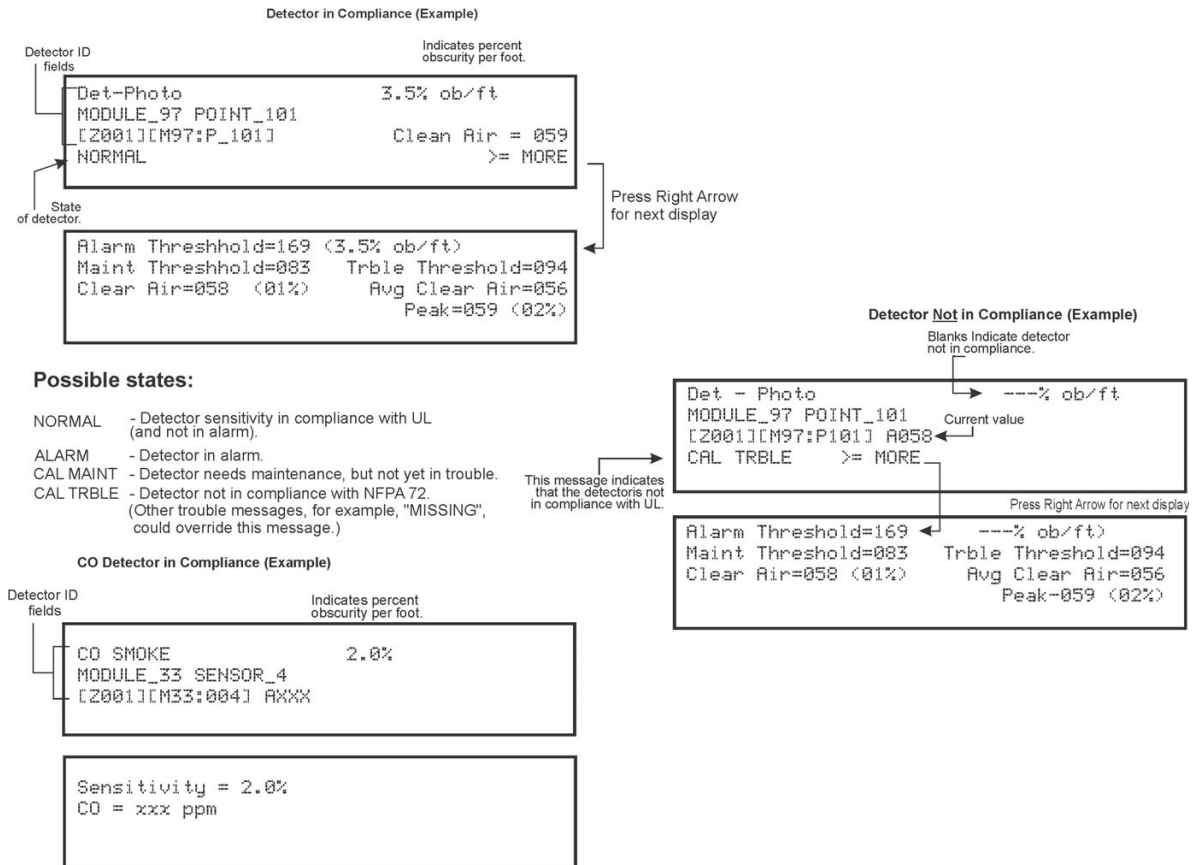

Figure 10.3 Checking Detector Sensitivity Compliance
5. A screen similar to those shown in Figure 10.3 will display.